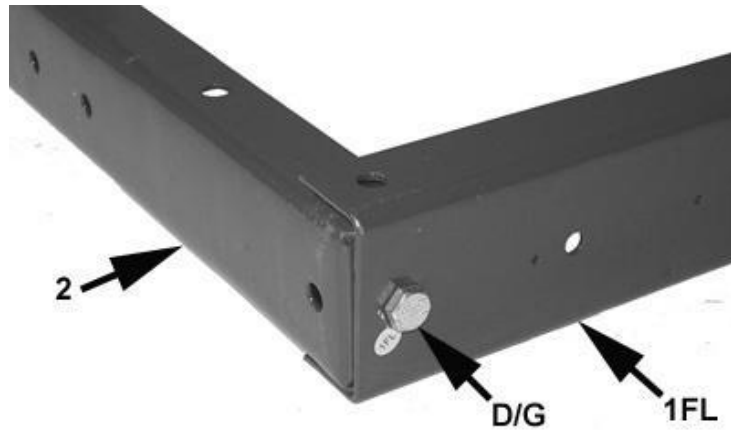

Figure 1-2
2. Connect front cross member (2) to left frame rail (1FL) with M10 x 20 bolt (D) and M10 nylon lock nut (G). See figure1-2.